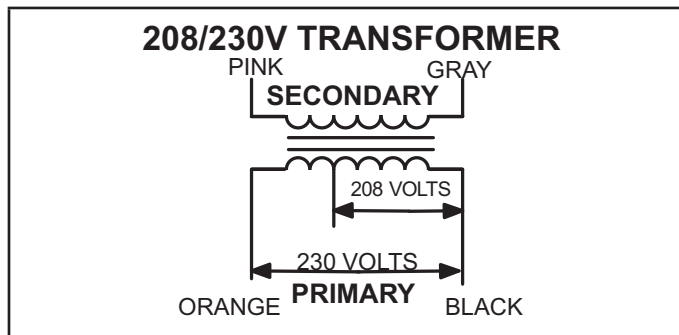

Figure 5
All use a single line voltage to 24VAC transformer mounted on the hinged control panel. Transformer supplies power to control circuits in the unit. The transformer T1 is rated at 92VA and is protected by a 6 amp circuit (CB8). The transformer T43 is rated at 70VA and is protected by a 3.5 amp circuit (CB31). The 208/230 voltage transformers use two primary voltage taps as shown in Figure 5, while the 460 (G) voltage transformer use a single primary voltage tap. All reheat units, heat pump units and units with phase detection components are equipped with transformer T43 located in the control box.